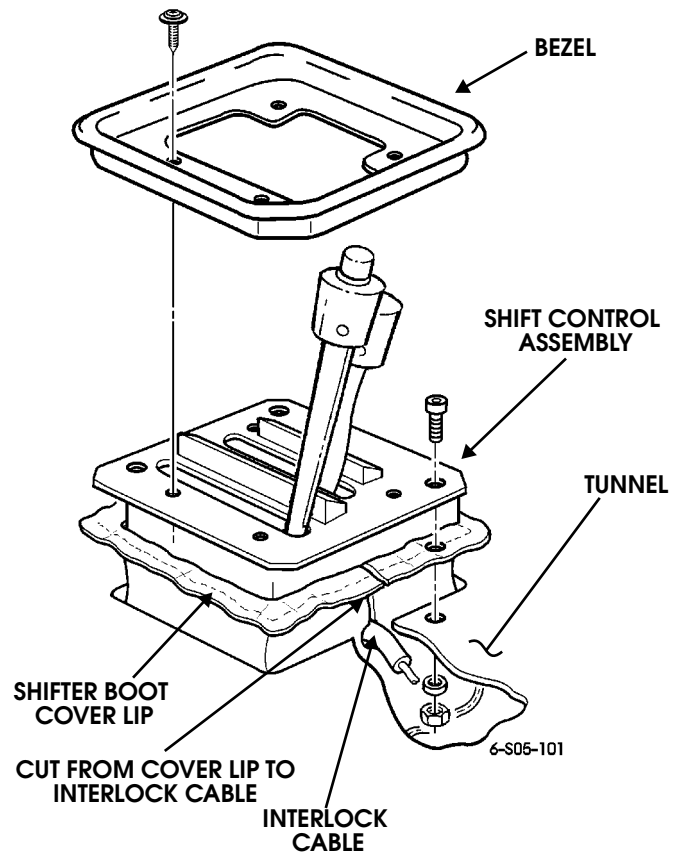

Figure 5-55: Cutting Shifter Boot Cover
4. Remove bezel from shift control assembly (Figure 5-55).
6. Cut shifter boot cover from the lip to the interlock cable hole as shown (Figure 5-55).